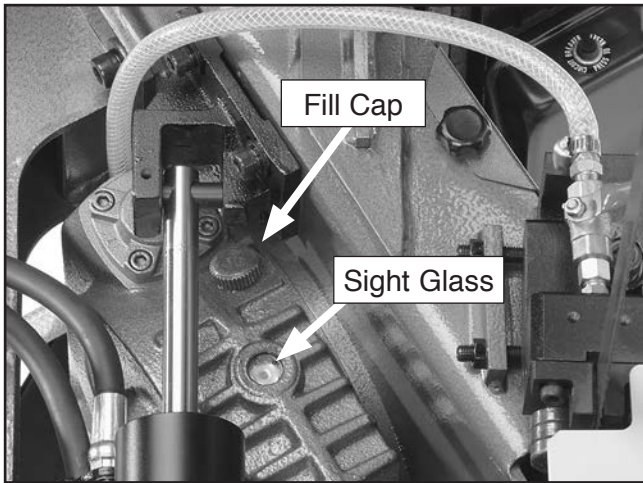

Figure 38. Gear box lubrication.
6. Open the fill cap and fill the gearbox with oil until you see the oil level reach the halfway point in the sight glass (see **Figure 38**).